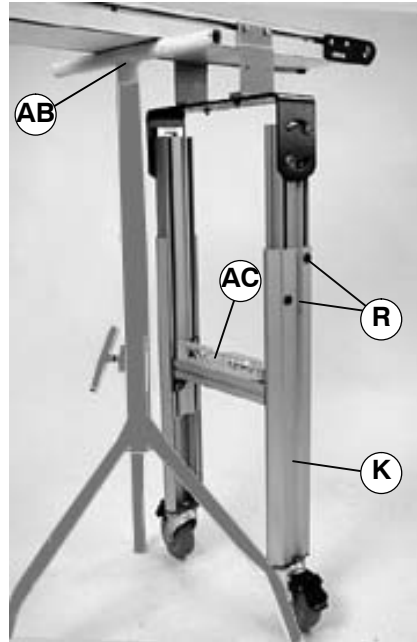

Figure 21
1. Using a support (AB of Figure 21), raise conveyor and stand off the floor.
2. Loosen button screws (R).
3. Raise or lower stand leg (K) to the required height. Level stand from side to side using a level (AC).
! WARNING Failure to secure screws (R of Figure 21) may cause conveyor sections to drop down causing severe injury. TIGHTEN SCREWS (R) AFTER ADJUSTMENT.
4. Tighten button screws (R) to 150 in-lb (17 N-m).
1. Loosen boot screws (R of Figure 21).
WARNING Failure to secure screws (R of Figure 21) may cause conveyor sections to drop down causing severe injury. TIGHTEN SCREWS (R) AFTER ADJUSTMENT.
3. Tighten button screws (R of Figure 21) to 150 in-lb (17 N-m).